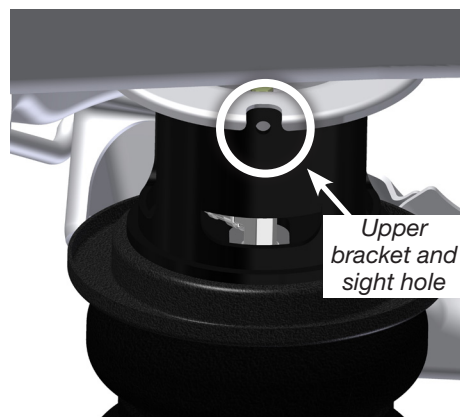

fig. 15
6. Center the assembly over the upper spring perch, with the upper bracket sight hole aligned with the notch in the upper spring seat (Fig. 15). Thread the upper bracket bolt into the nut plate, torque to 27Nm (20 lb.-ft.).